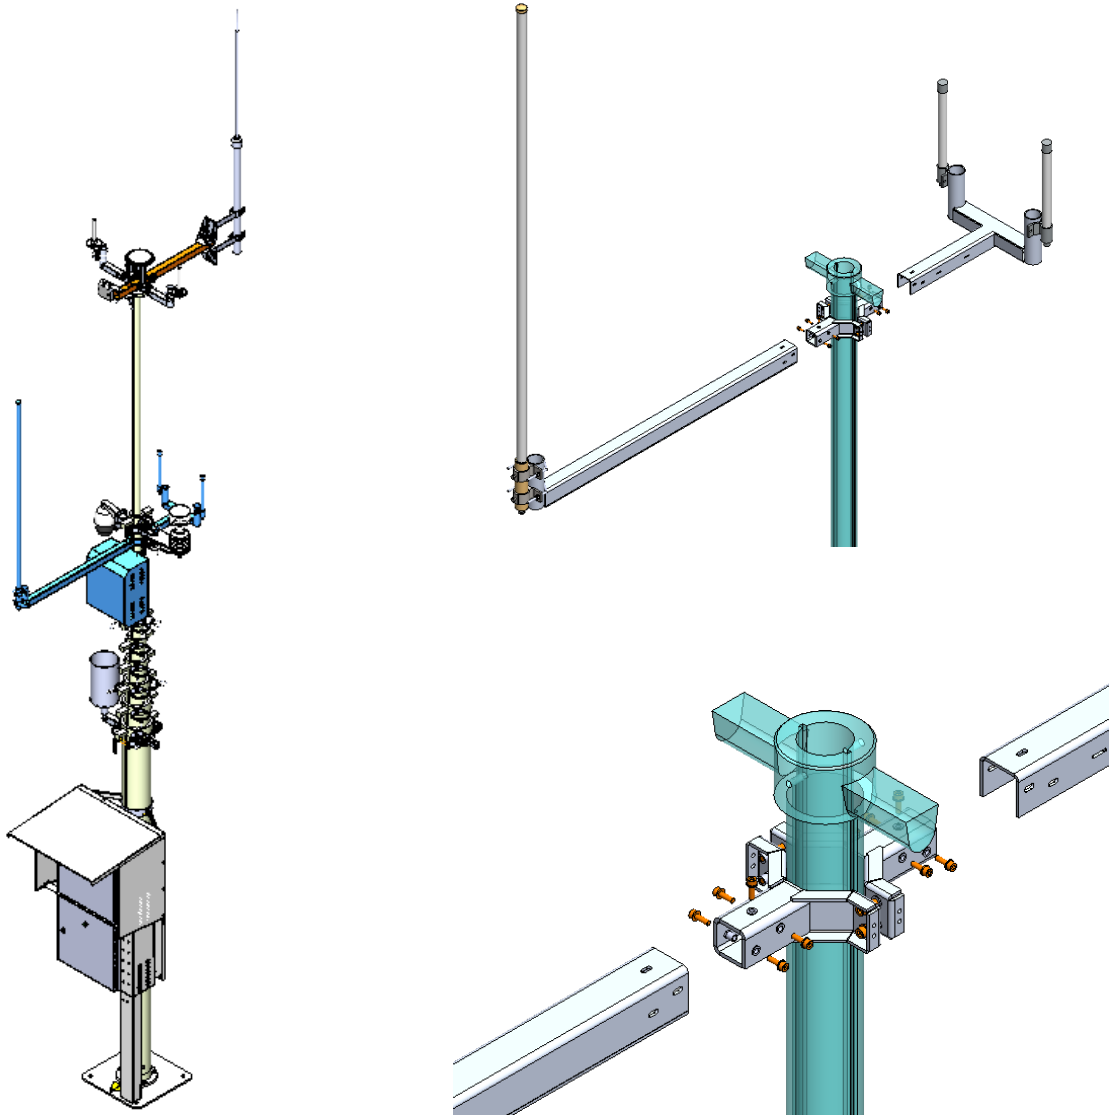

Figure 4 Connecting the V-bracket sub-assemblies to the mast
1. Connect the Main antenna bracket to the V-bracket that's located below the camera/whether station V-bracket (see Figure 4).